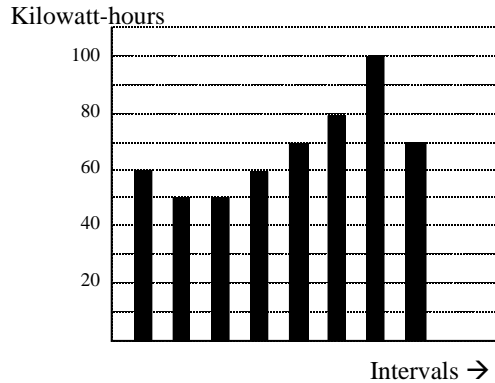

Figure 1.8: Energy use and demand
- Figure 1.8 shows another example of energy and demand. In this case, each bar represents the energy consumed in a 15-minute interval. The energy use in each interval typically falls between 50 and 70 kWh. However, during two intervals the energy rises sharply and peaks at 100 kWh in interval number 7. This peak of usage will result in setting a high demand reading. For each interval shown the demand value would be four times the indicated energy reading. So interval 1 would have an associated demand of 240 kWh/hr. Interval 7 will have a demand value of 400 kWh/hr. In the data shown, this is the peak demand value and would be the number that would set the demand charge on the utility bill.